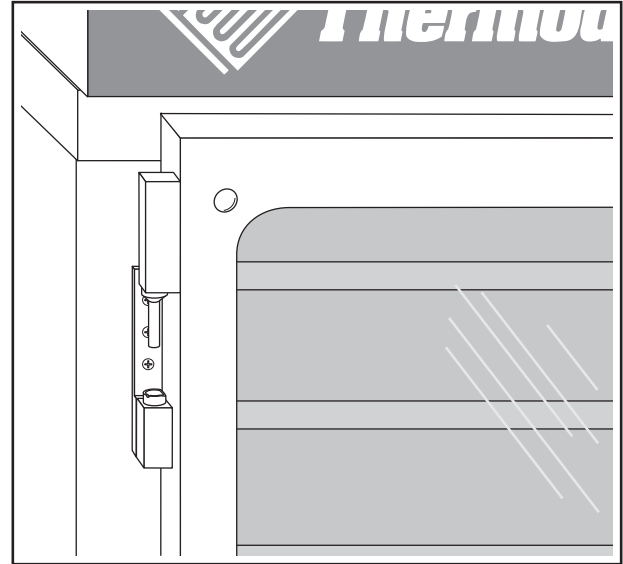

Figure 4. Mounting the doors
7. Mount doors on cabinet as depicted in Figure 4.